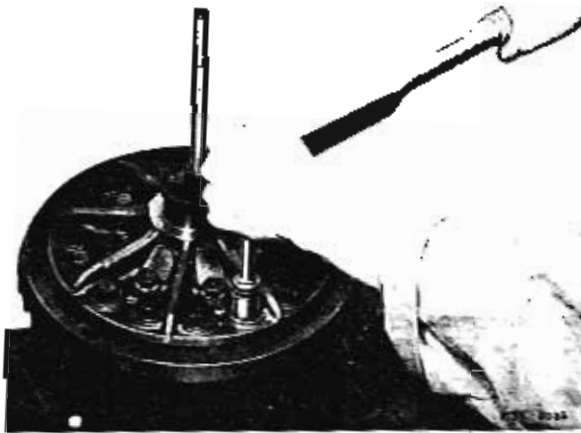

Fig. 5
- 6 Heat ring gear to approx. 80° C, place on differential housing and screw down (Fig. 5).